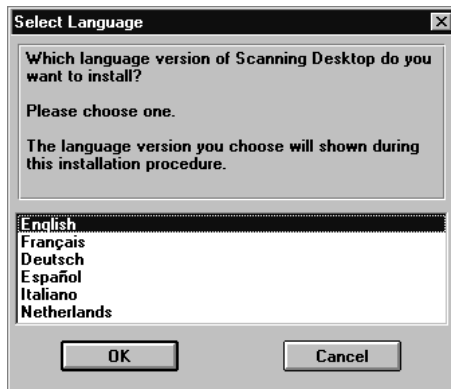

Figure 16: Selecting a language
4. Type [D:\START.EXE] in the command line and click on 'OK' (Figure 16) to start the installation.